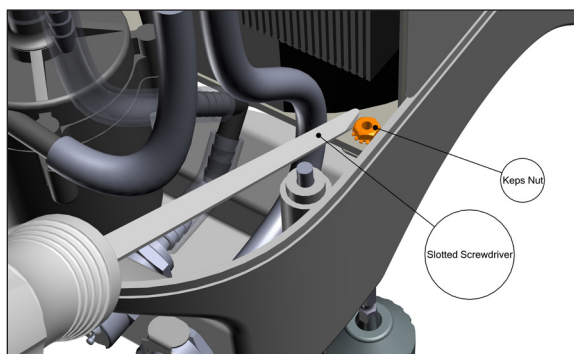

Figure 149 - Step 3 Hold Keps nut #3
3. Insert screw #3 through the fan guard and mounting holes on the base enclosure. Use the slotted screwdriver to hold the nut in position, then place the Keps nut over the top and slowly thread the screw into the nut (Figure 149).